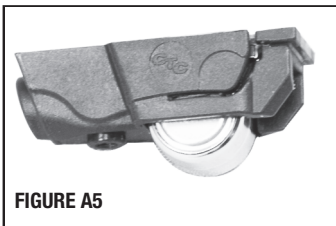

FIGURE A5
- Install two (2) 357 silver oxide batteries as shown (FIGURE A5). Proper battery orientation is clearly marked on the battery pocket of the Crimson Trace® laser.